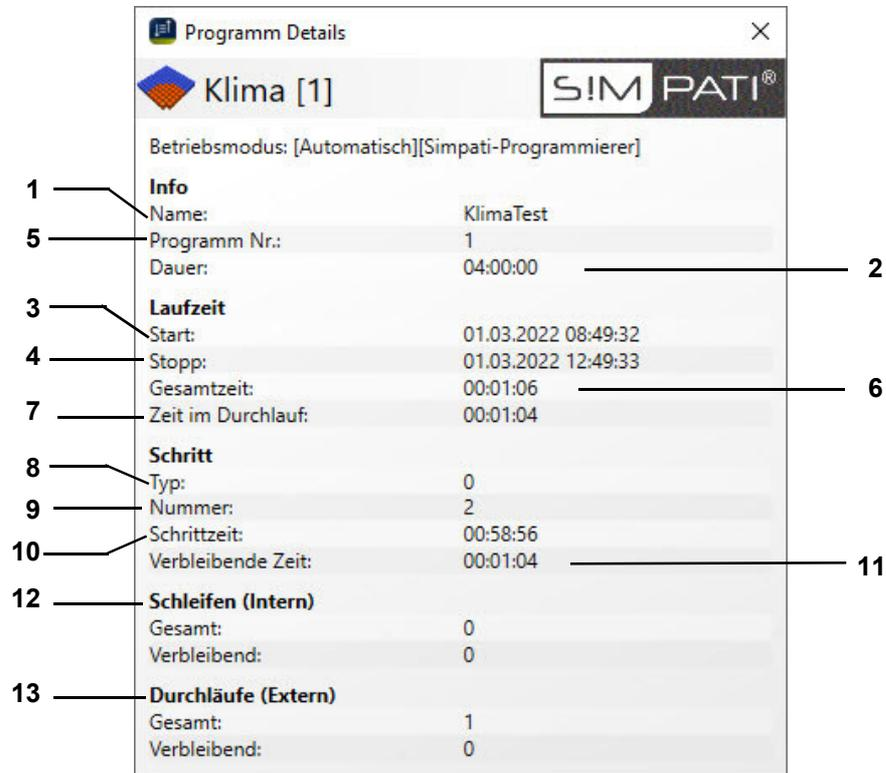

Fig. 10-4 Information window for automatic/program mode
- 11 In automatic/program mode you can access a menu window containing information about the test program → Fig. 10-4 »Information window for automatic/program mode« (page 87).